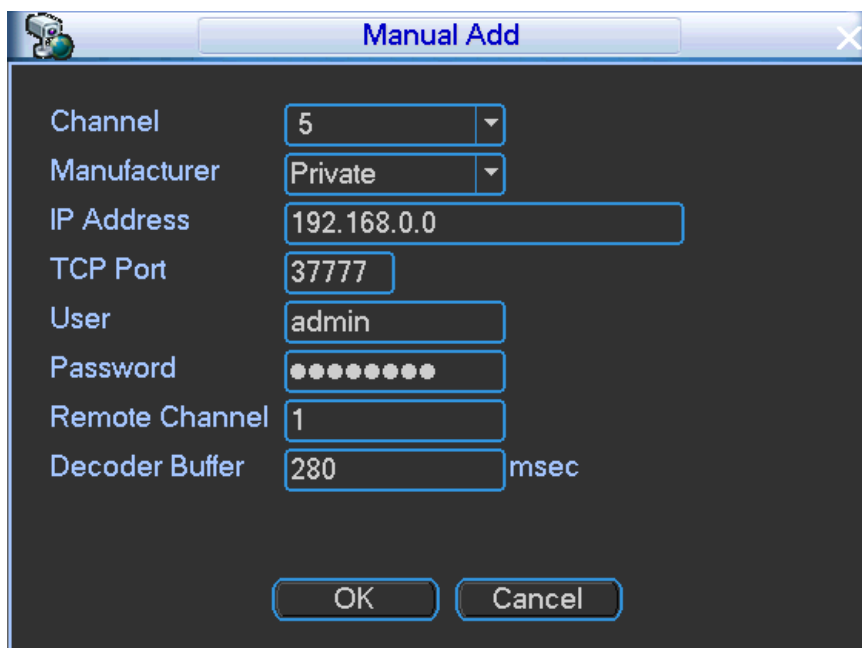

Figure 4-16
- Manual Add: Click Manual Add button, you can set the corresponding network camera information and then select the channel you want to add. See Figure 4-16.